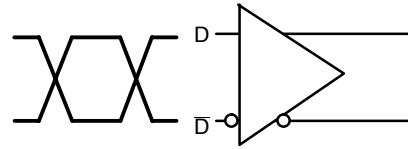

Figure 11. Differential Inputs Driven Differentially
**DIFFERENTIAL INPUTS DRIVEN DIFFERENTIALLY** (Figures 11, 13)